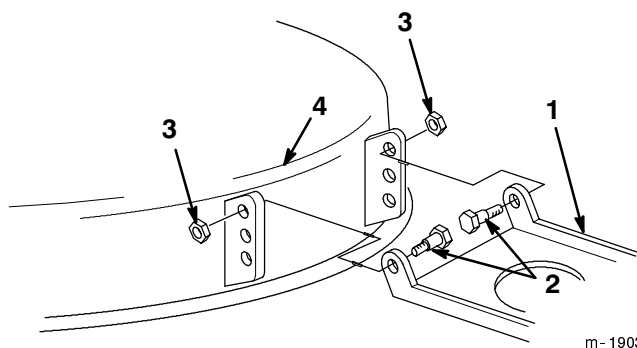

Figure 53
11. If the 1/4" to 5/8" (6.350 mm to 15.875 mm) front slope cannot be achieved by rotating the slope adjusting nut, move the mower pivot mount at the mower (Fig. 53).
12. Remove the shoulder bolts and lock nuts from the mower (Fig. 53).
13. Lower the mower pivot one hole and install the shoulder bolts and lock nuts (Fig. 53).